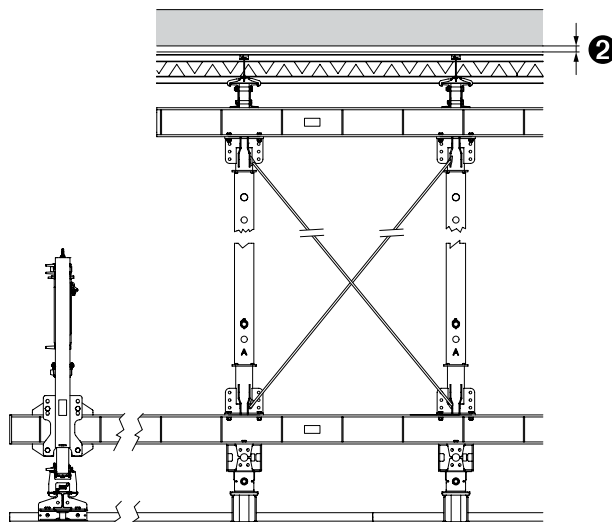

Fig. D2.02
- The entire Tunnel Formwork Carriage is lowered. (Fig. D2.02)